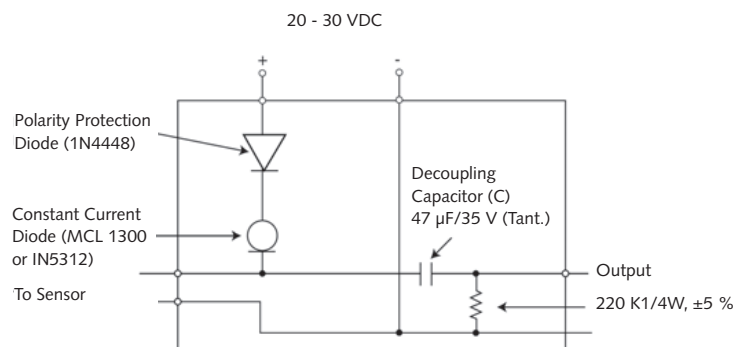

Fig. 8: Schematic diagram of a basic coupler
A source resistor ( $R_s$ ), while located in the coupler, is part of the source follower circuit. In order for the Piezotron to provide enough gain,  $R_s$  must have a high dynamic resistance while being able to provide enough current (low DC resistance) as not to affect the high frequency response of the system. Replacing  $R_s$  with a constant current diode (Fig. 8) provides a device with a high dynamic resistance while allowing sufficient current to flow.
Fig. 8 shows a schematic of a simple power supply coupler for ceramic shear accelerometers. DC power is supplied from a 24-Volt source, such as a regulated power supply or batteries. The Piezotron system houses an advantageous, two-wire coaxial cable sharing both the power source and the signal across the same line. Therefore, it is necessary to include the capacitor  $C$  to decouple (or block) the DC from the measurement instrument input.
When using a simple coupler circuit (see Fig. 8) with AC coupling, a time constant equal to the product of the decoupling capacitor's (C) capacitance and the read-out instrument's input impedance will be achieved.
When using a simple coupler (see Fig. 8), the system formed by the coupler and read-out instrumentation can shorten the time constant, thereby degrading the low frequency response. The new system time constant can be approximated by the equation: